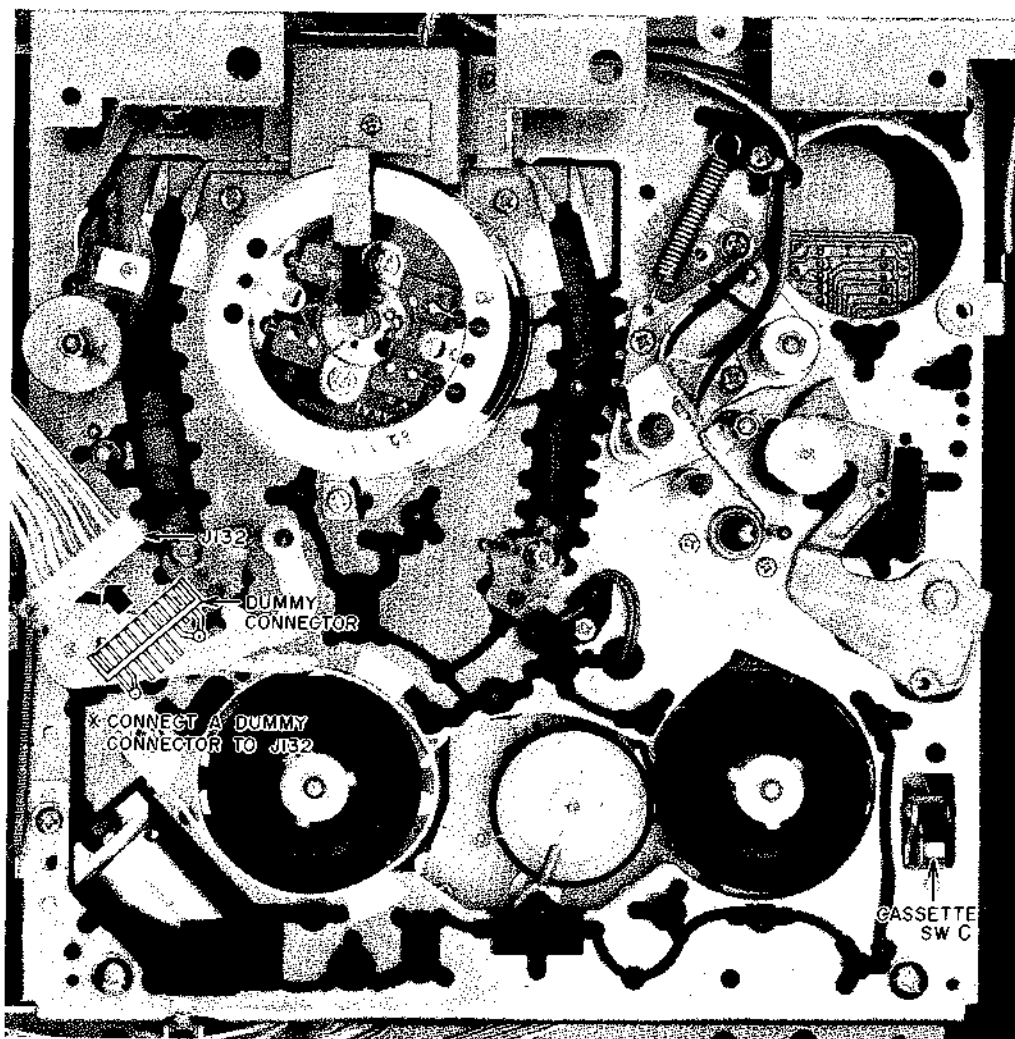

Fig. 6-1-2 Connection of Dummy Connector
- 3) Connect a dummy connector (the connector used to build this dummy connector is a plug 9P connector parts No. EJ-356347) to J132 as shown Fig. 6-1-2.